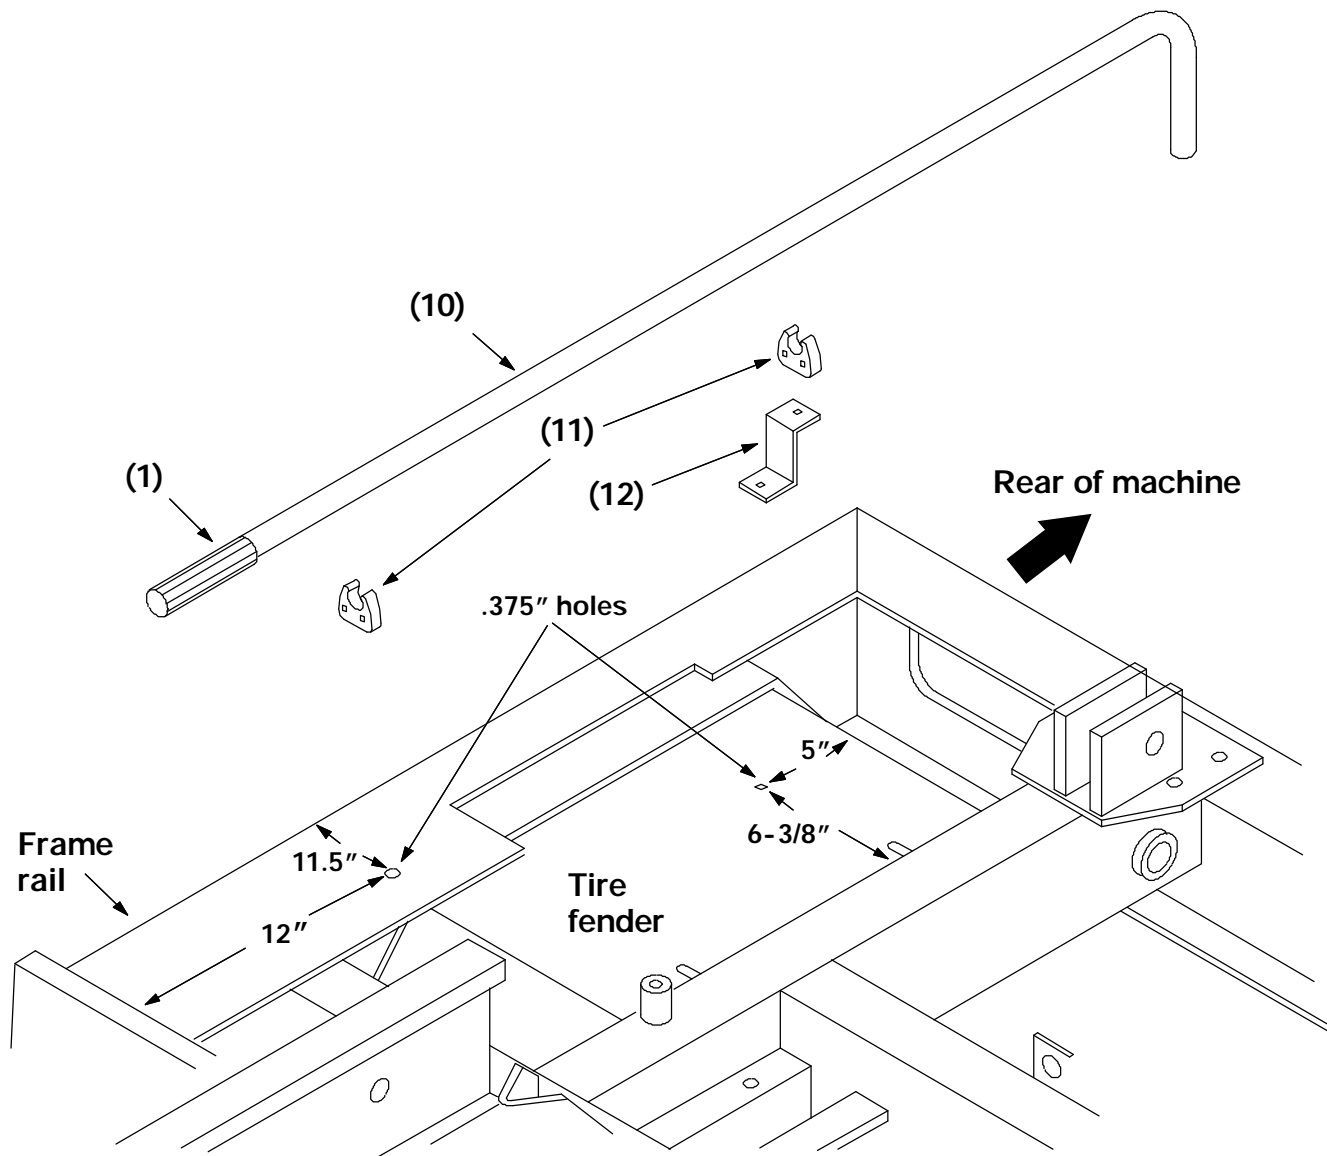

FIG. 7 - Tool Mount Holes
1. Drill a .375 (3/8) in. hole in the right rear tire fender using the dimensions provided. (Refer to Fig. 7)
2. Drill a .375 (3/8) in. hole in the right rear frame rail using the dimensions provided. (Refer to Fig. 7)
3. Mount the clip mount bracket (12) to the hole in the fender. (Refer to Fig. 7)
4. Mount a finger grip clip (11) in the hole in the clip mount bracket and in the hole in the frame rail. Tighten the hardware. Install the conveyor door tool (10) and grip (1) in the clips with the hand grip facing forward. (Refer to Fig. 7)